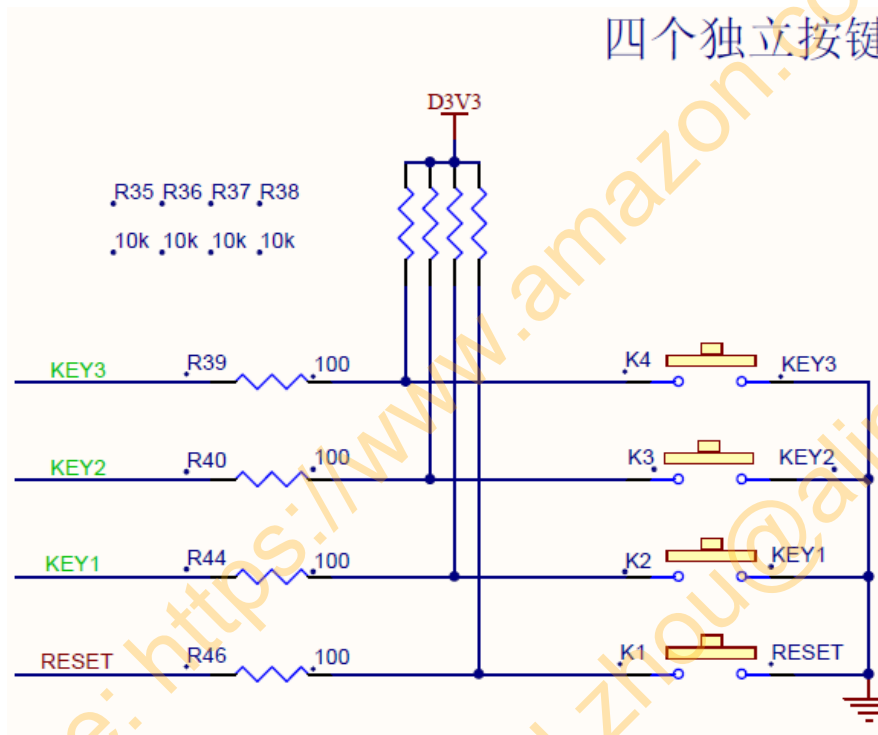

Figure 13-1: 4 user keys schematic
The development board has 4 independent keys, 3 user keys (KEY1 ~ KEY3), and 1 function key (RESET). **Press the key to low level (0), release to high level (1).** The schematic diagram of the four keys is shown in Figure 13-1: